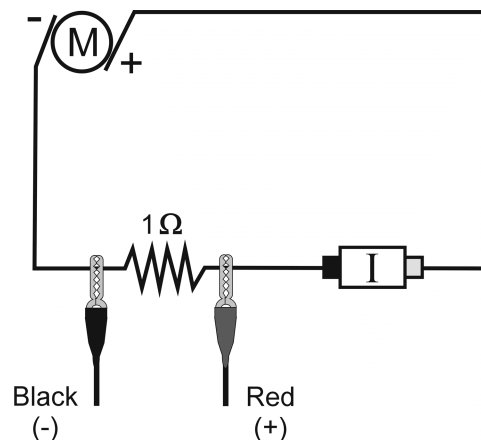

Figure 2
4. Connect the motor, 1- Ω resistor, wires, and clips as shown in Figure 2. Take care that the red lead from the motor and the red terminal of the Current Probe are connected.